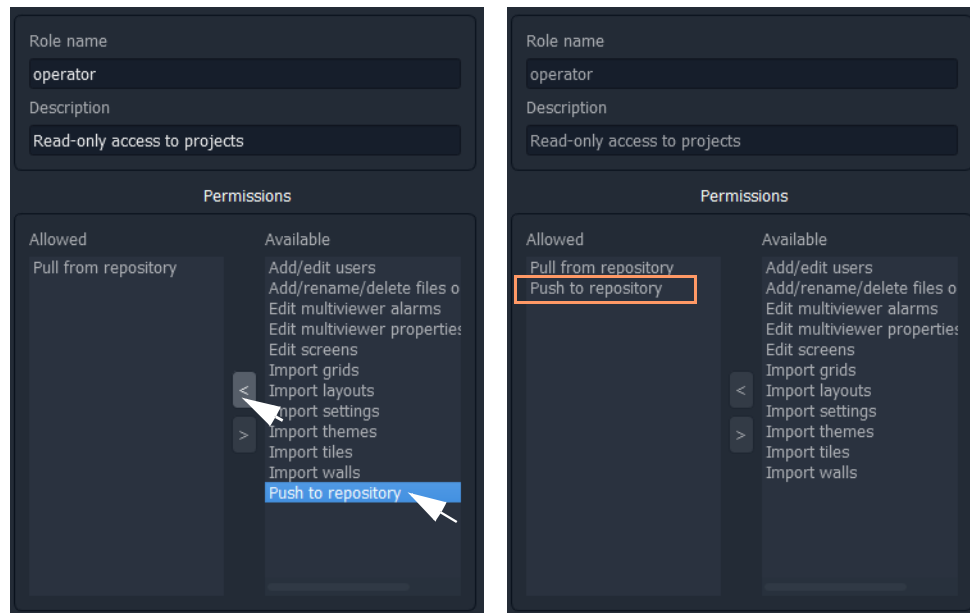

Fig. 4-9: Edit Role Permissions
- 1 Select a permission on the **Permissions** pane. See Figure 4-9.